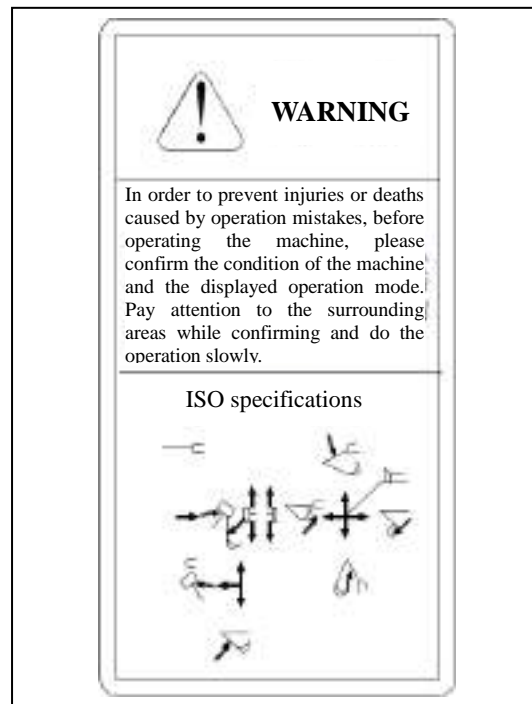

Figure 1-15 Warning about operation and mobility of machine
(14) Warning about operation and mobility of machine, as shown in Figure 1-15.